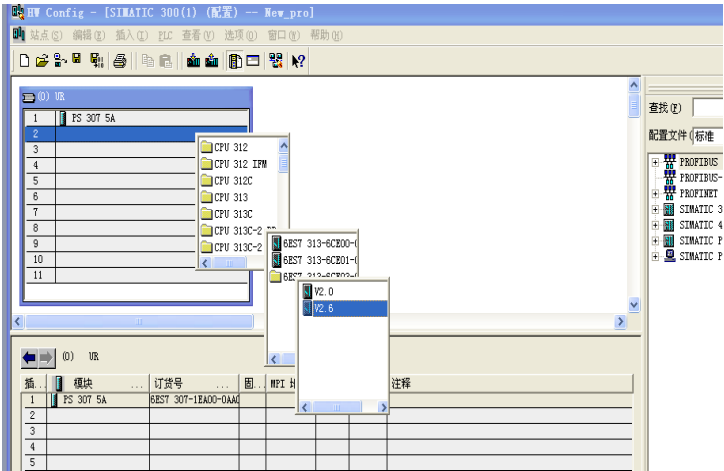

Figure 7-8
5. Right-click the second row in the pop-up list and select [Insert Object] . In the pop-up device list, select [CPU 313C-2 DP]->[6ES7 313-6CF03 0AB0]->[V2.6] in turn to add the system CPU, as shown in Figure 7-8.